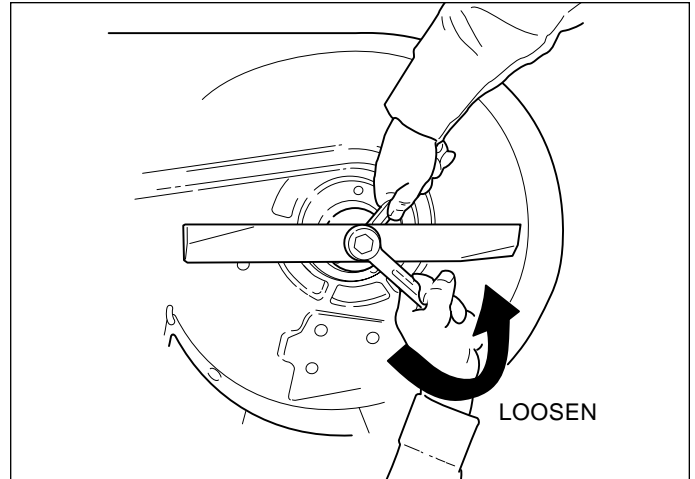

Figure 16. Removing the Blade
2. To remove blade for sharpening, use a 1" wrench on the flats of the spindle shaft while removing the blade mounting bolt with a 15/16" wrench (Figure 16).